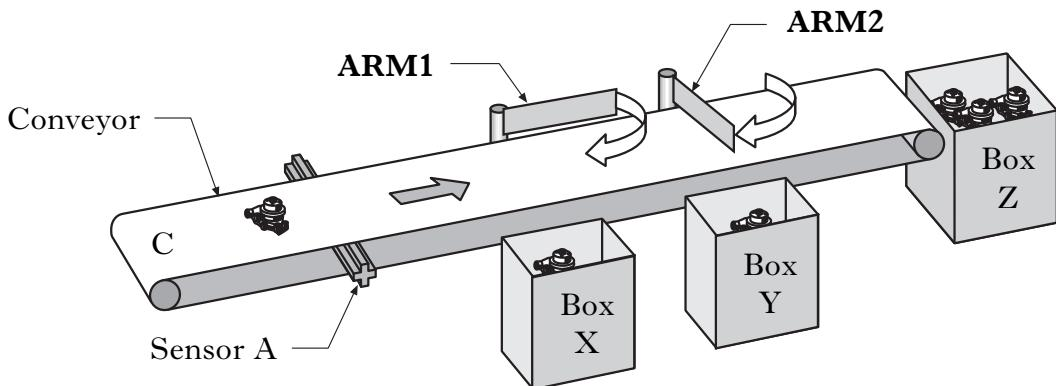

Figure Q6
6. Figure Q6 illustrates an automated component sorting system. The system shows ARM2 activated. Marks